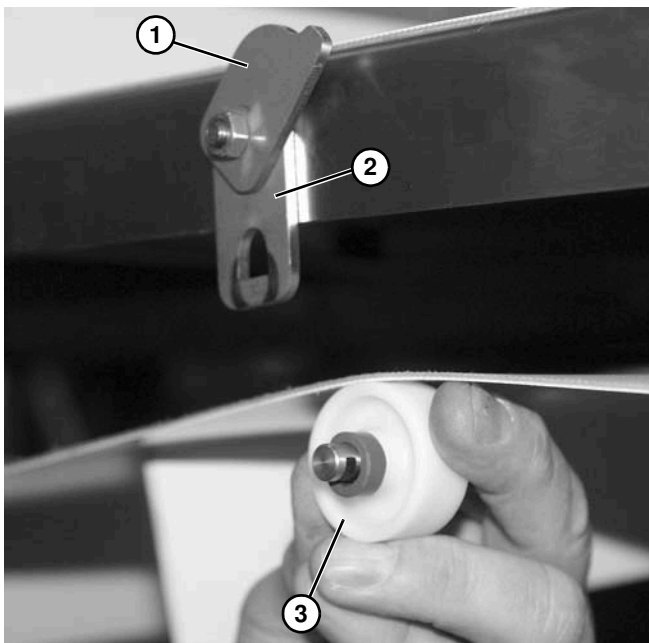

Figure 76
2. Raise clip bracket (Figure 76, item 1) from shaft bracket (Figure 76, item 2) on conveyor.
3. Remove roller assembly (Figure 76, item 3) from shaft bracket (Figure 76, item 2).